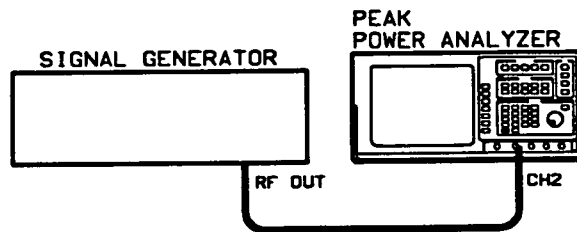

Figure 1-9.
1. Connect the equipment as shown in Figure 1-9.